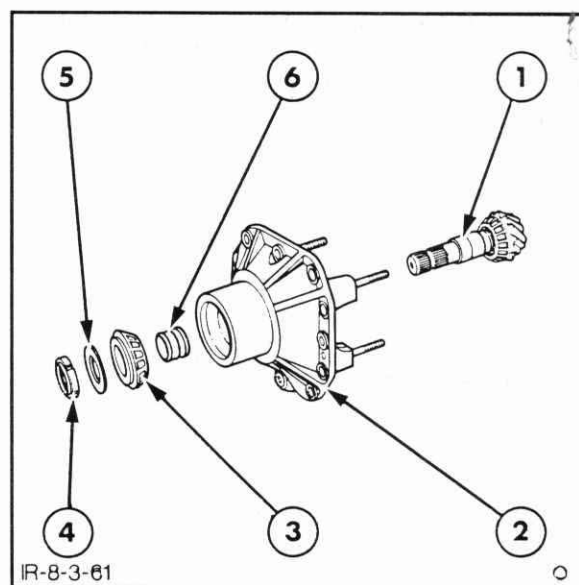

Figure 7-124
13. Drive the pinion from the differential support housing and collect the collapsible spacer and outer bearing inner race, Figure 7-124.